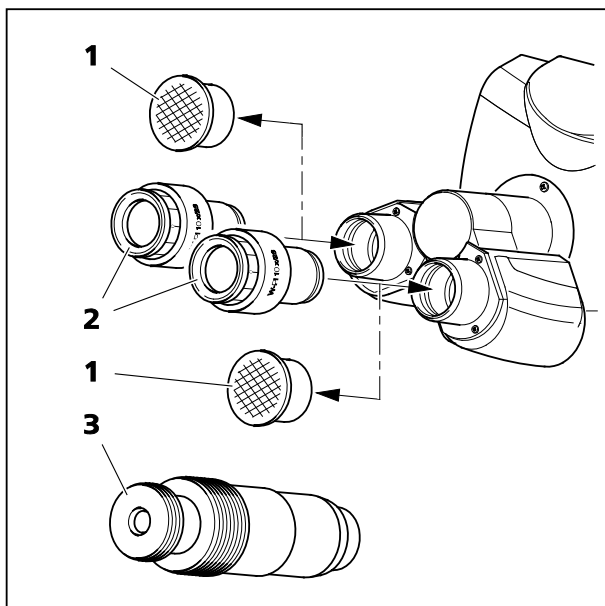

Fig. 12 Inserting eyepieces
- Remove both dust caps (Fig. 12/1) from the binocular tube.
- Remove both eyepieces (Fig. 12/2) from their cases and insert them into the binocular tube as far as they will go.
- The auxiliary microscope (Fig. 12/3) can be inserted into one of the eyepiece sockets of the binocular tube in place of an eyepiece. It is used to view the objective pupil and to center phase and darkfield stops. These diaphragms and stops can be focused using the adjustable eye lens; the setting can then be locked by means of the clamping screw.